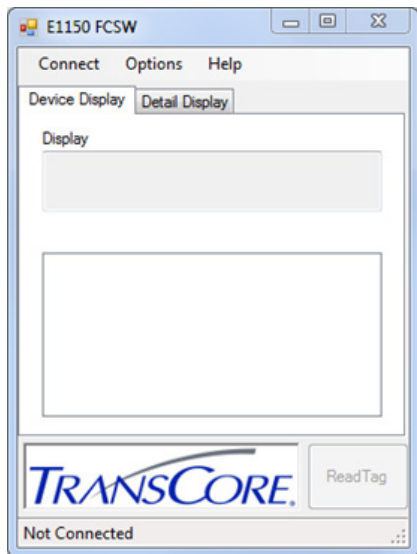

Figure 1 E1150 Field Configuration Software Startup Window
2. The **E1150 FCSW** startup window will open (Figure 1). Click **Connect**. Click **COM Port**.